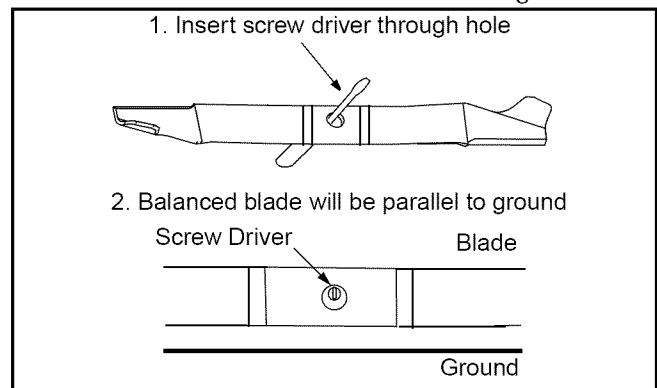

Figure 12
- Test the blade by balancing it on a round shaft screwdriver or a blade balancer. See Figure 12.